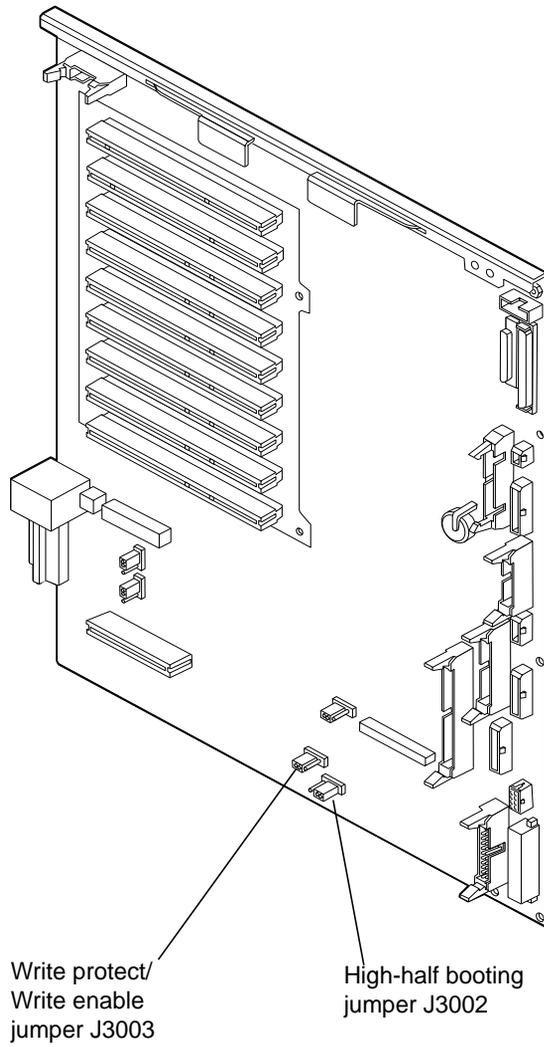

FIGURE 1-11 Sun Fire 880 Flash PROM Location on the System I/O Board
- For a Sun Fire 880 system, see FIGURE 1-11 on page 1-10.